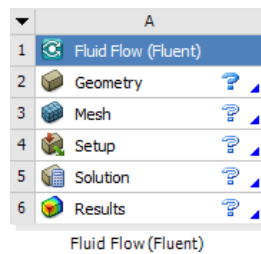

Figure 6: Cells status in the Fluent project.
- The system in the Project Schematic pane will now appear as in figure 6, in which you can notice that the various items, called (*cells*) in WB, which make up the project scheme - *Geometry*, *Mesh*, *Setup*, *Solution* and *Results* - are distinguished by a question mark, to signify the absence of data or the presence of errors.